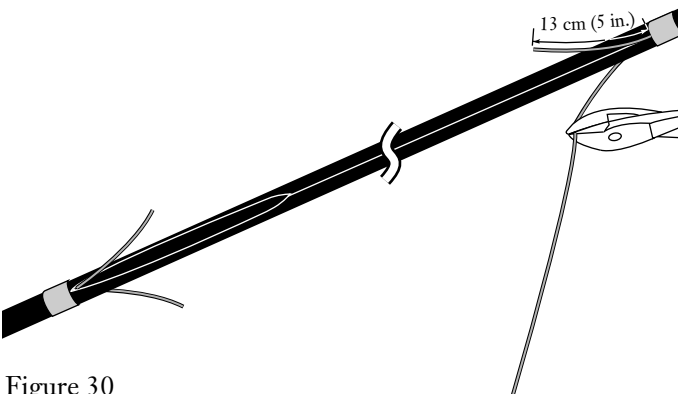

Figure 30
7.12 Cut the steel rods 13 cm (5 in.) from the tape wrap (Figure 30). **ALWAYS WEAR SAFETY GLASSES WHEN CUTTING THE STEEL RODS.**